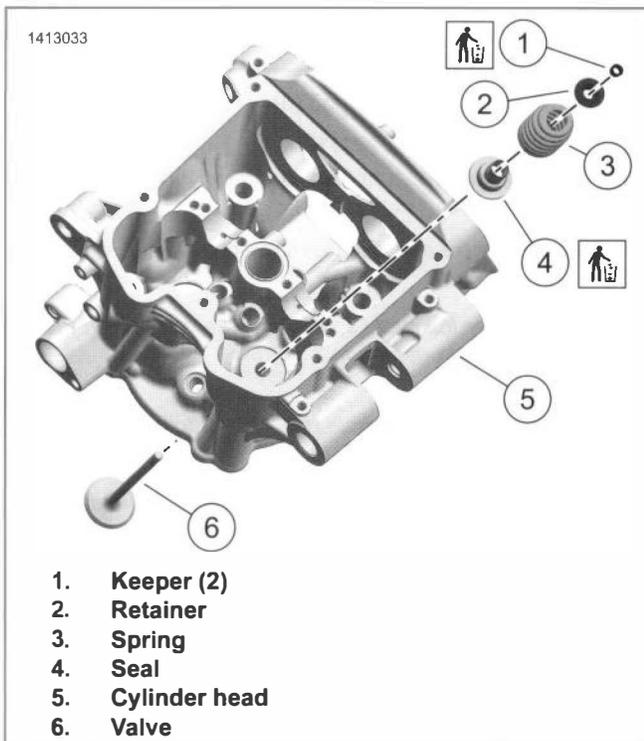

Figure 4-40. Valve Assembly
2. See Figure 4-40. Remove valves.
See Figure 4-40. Install all parts in their original location and position.